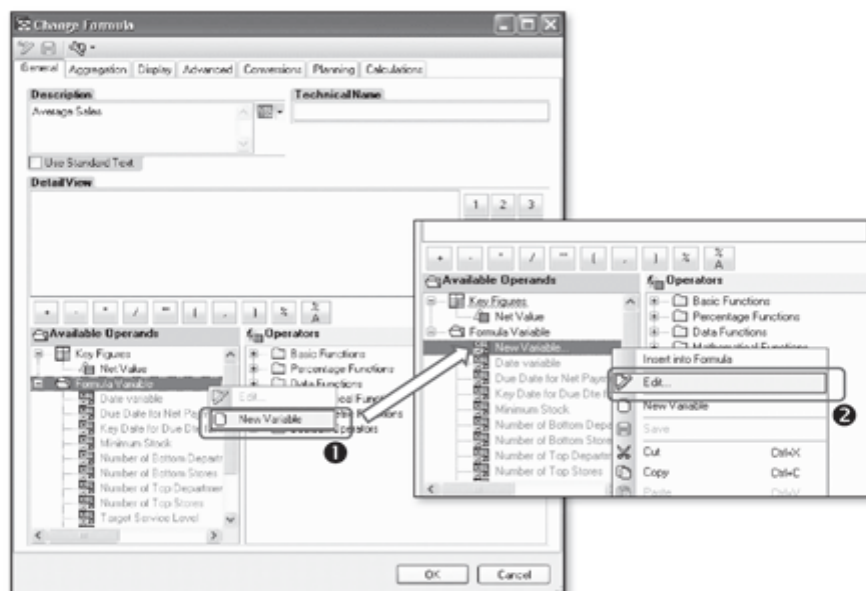

Figure 9.34 Accessing the Variable Editor from the Formula Dialog
To create a formula variable, you can access the variable editor from the formula screen while defining a query (see Figure 9.34). You can see a folder for formula variables under the operands section of the formula editor. Select New Variable from the context menu to create a new formula variable (❶). A new variable is created in the folder. To define this variable, select Edit from the context menu of the new variable (❷).